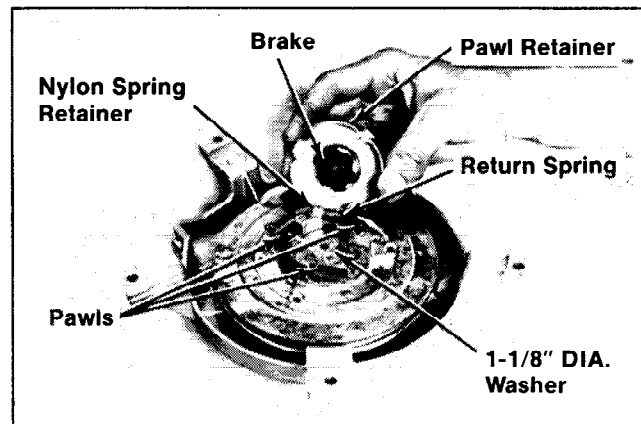

Figure 7-14. Removing Pawl Retainer, Pawls, And Related Components.
10. **Carefully** lift the pawl retainer from pulley. Refer to Figure 7-14.